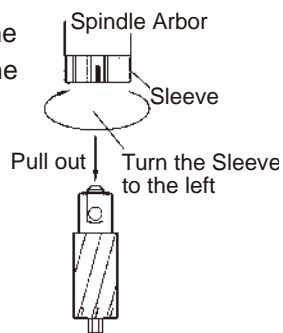

Fig. 13
- (4) To remove the cutter, turn the Sleeve counterclockwise. The cutter will come off. (Fig.13)